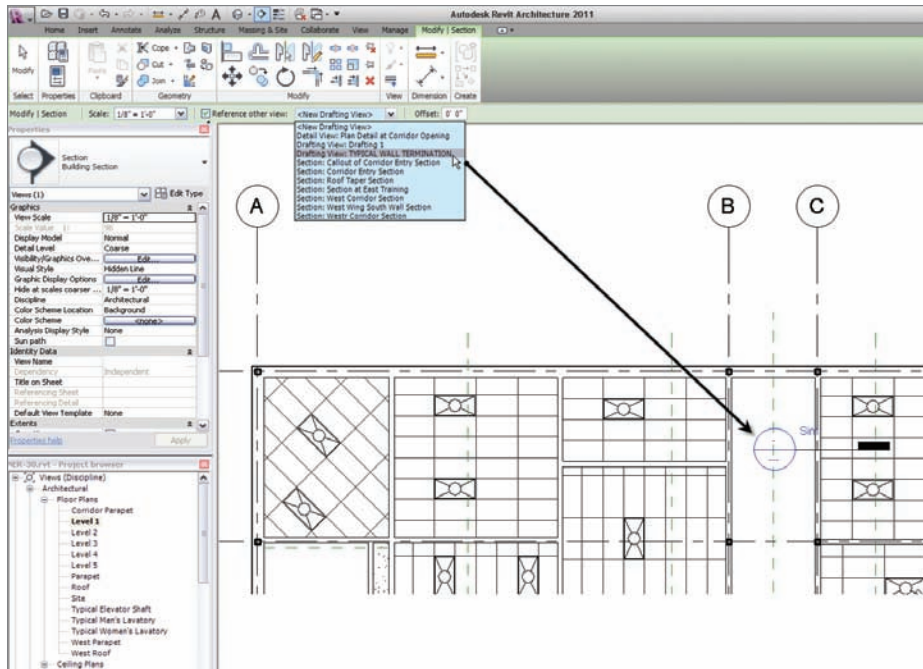

FIGURE 12.81 Choosing the correct options while placing the section
2. Zoom in on the area of the east wing, as shown in Figure 12.81.
6. Place the section into the model, as shown in Figure 12.81.